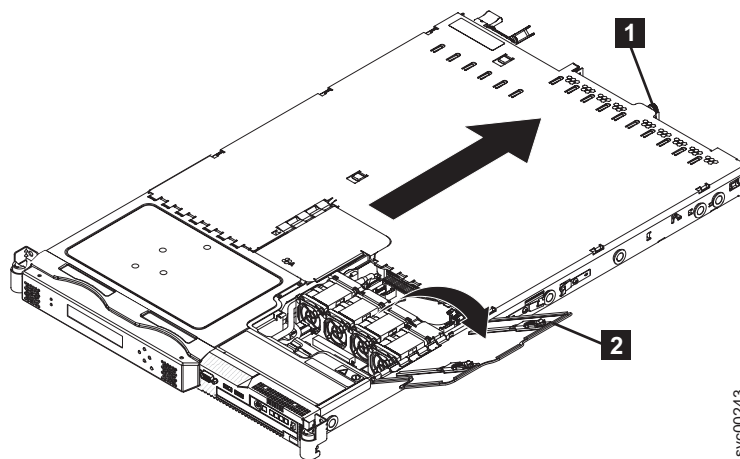

Figure 130. The SAN Volume Controller 2145-8G4 with fan door open
3. Loosen the thumbscrew (1 in Figure 130) that secures the cover at the rear of the SAN Volume Controller 2145-8G4.